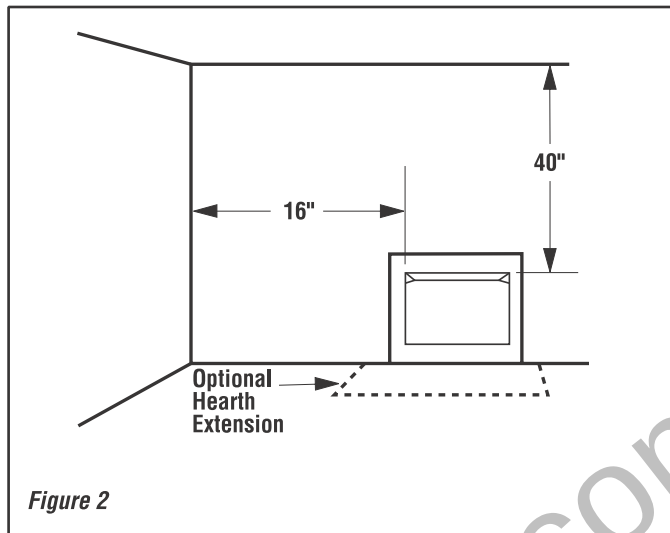

Figure 2
Ensure the minimum clearances shown in **Figures 2 through 4** are maintained. Left and right clearances are determined when facing the front of the firebox.
Clearances from the side of the firebox opening to any combustible material (e.g. side wall, mantel leg, bookshelf, etc.), must comply with the requirements shown in **Figures 2 and 2a**.
Ceiling clearance: The ceiling must be at least 40" from the top of the firebox opening (**Figure 2**).
Step 1. Frame these appliances as illustrated in **Figures 7 through 9**. All framing details must allow for a minimum clearance to combustible framing members as shown in **Figures 2 through 4**. Also refer to appliance specifications on **Page 10**. Headers may be in direct contact with the appliance top spacers but must not be supported by them or notched to fit around them. All construction above the appliance must be self supporting, **DO NOT USE THE APPLIANCE FOR STRUCTURAL SUPPORT**.